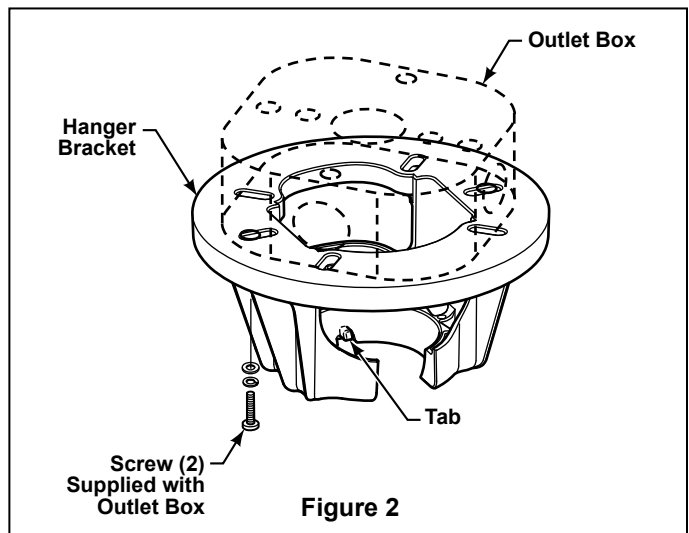
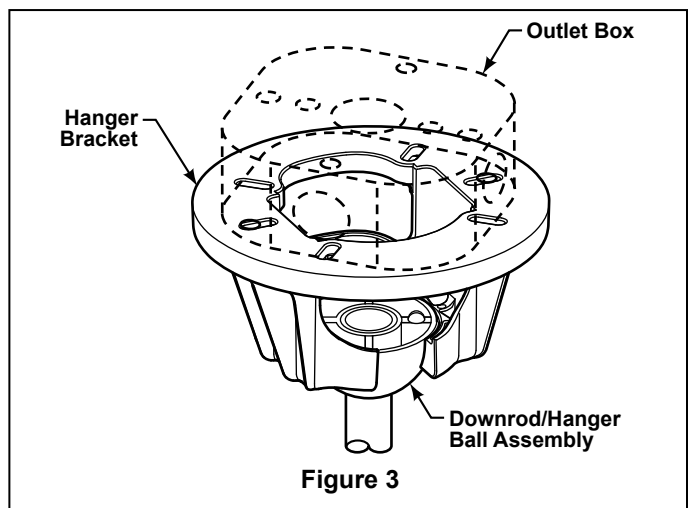

Figure 2
Figure 3
3. Loosen the two setscrews in the Downrod Support. Align the Clevis Pin holes in the Downrod with the holes in the Downrod Support. Install the Clevis Pin and secure with the Hairpin Clip. (Figure 3) Be sure to push the straight leg of the hairpin clip through the hole near the end of the clevis pin until the curved portion of the hairpin clip snaps around the clevis pin. The hairpin clip must be properly installed to prevent the clevis pin from working loose. Pull on the Downrod to make sure the clevis pin is properly installed.
4. Route wires through Motor Coupling Cover, Canopy (with Canopy Screw Cover) on fan shown with open side facing up. (Figure 3)
**NOTE:** Outlet box screws pass through slotted holes of the hanger bracket (Figure 2).
3. Carefully lift the fan and seat the downrod/hanger ball assembly on the hanger bracket that was just attached to the outlet box (Figure 3). Be sure the groove in the ball is lined up with tab on the hanger bracket (Figure 2).
3. Disassemble Switch Cup Cover from Switch Cup Support Plate by removing three screws. (Figure 3)